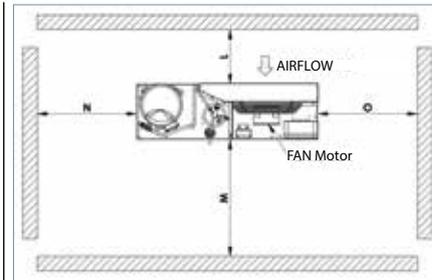

Figure 1: Minimum mounting distances
- Ensure that there is sufficient space around the unit for proper air circulation and for opening the doors. See Figure 1 for the minimum distance values to walls.